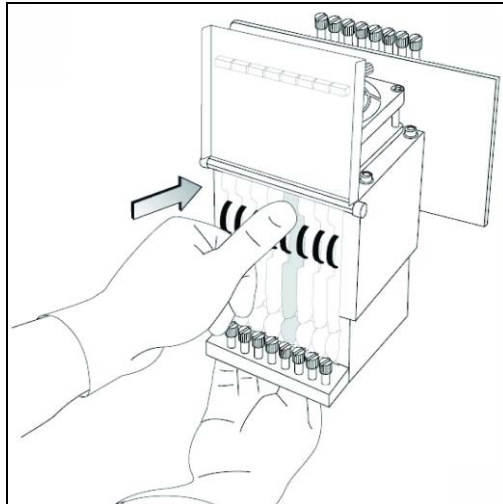

Figure 7-67: Inserting the print-head driver card into its socket
- Re-insert the print-head driver card into its socket (see figure 7-67 on page 44).